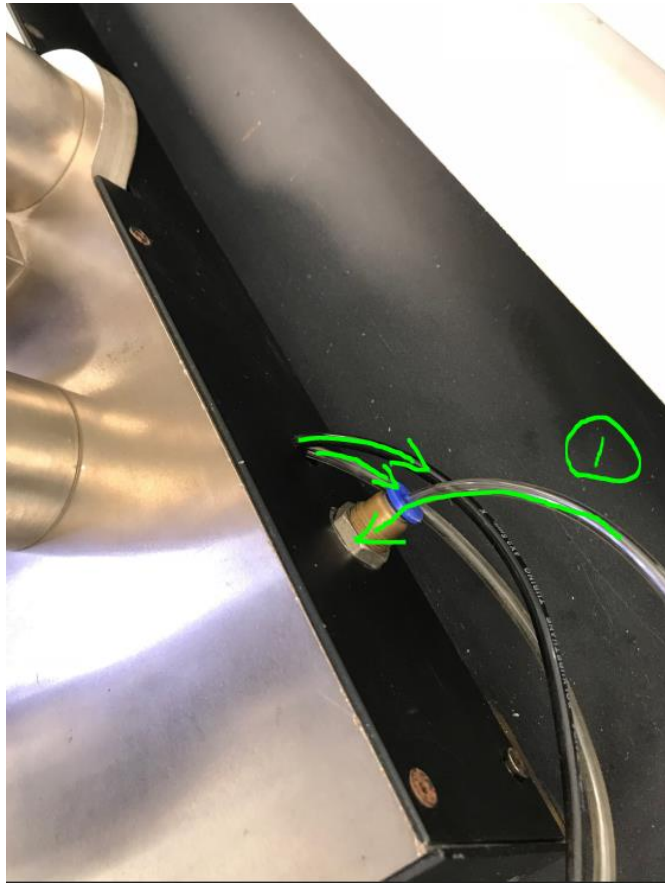

Figure 29 Air pump connection in the back of probe station
The last part we need connect is the air pump (shown in Figure 28). It is supposed to be three tubes that related to the air pump. The first one is the yellow one in Figure 28 and the tube labeled ① in Figure 29, these two are actually the two terminals of one tube which connects the probe station and air pump.